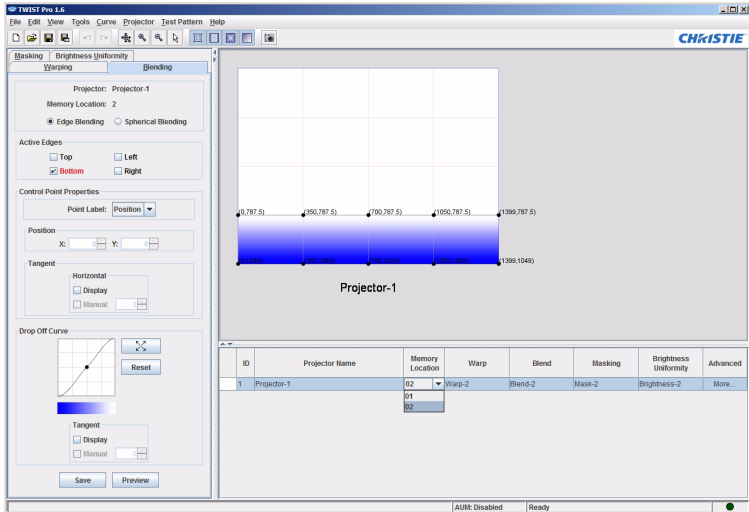

Figure 8-14 Projector Summary - Blend Memory Location
1. To see the list of available blends for the selected projector, click the drop-down arrow in the **Memory Location** column for the desired projector (Figure 8-14).